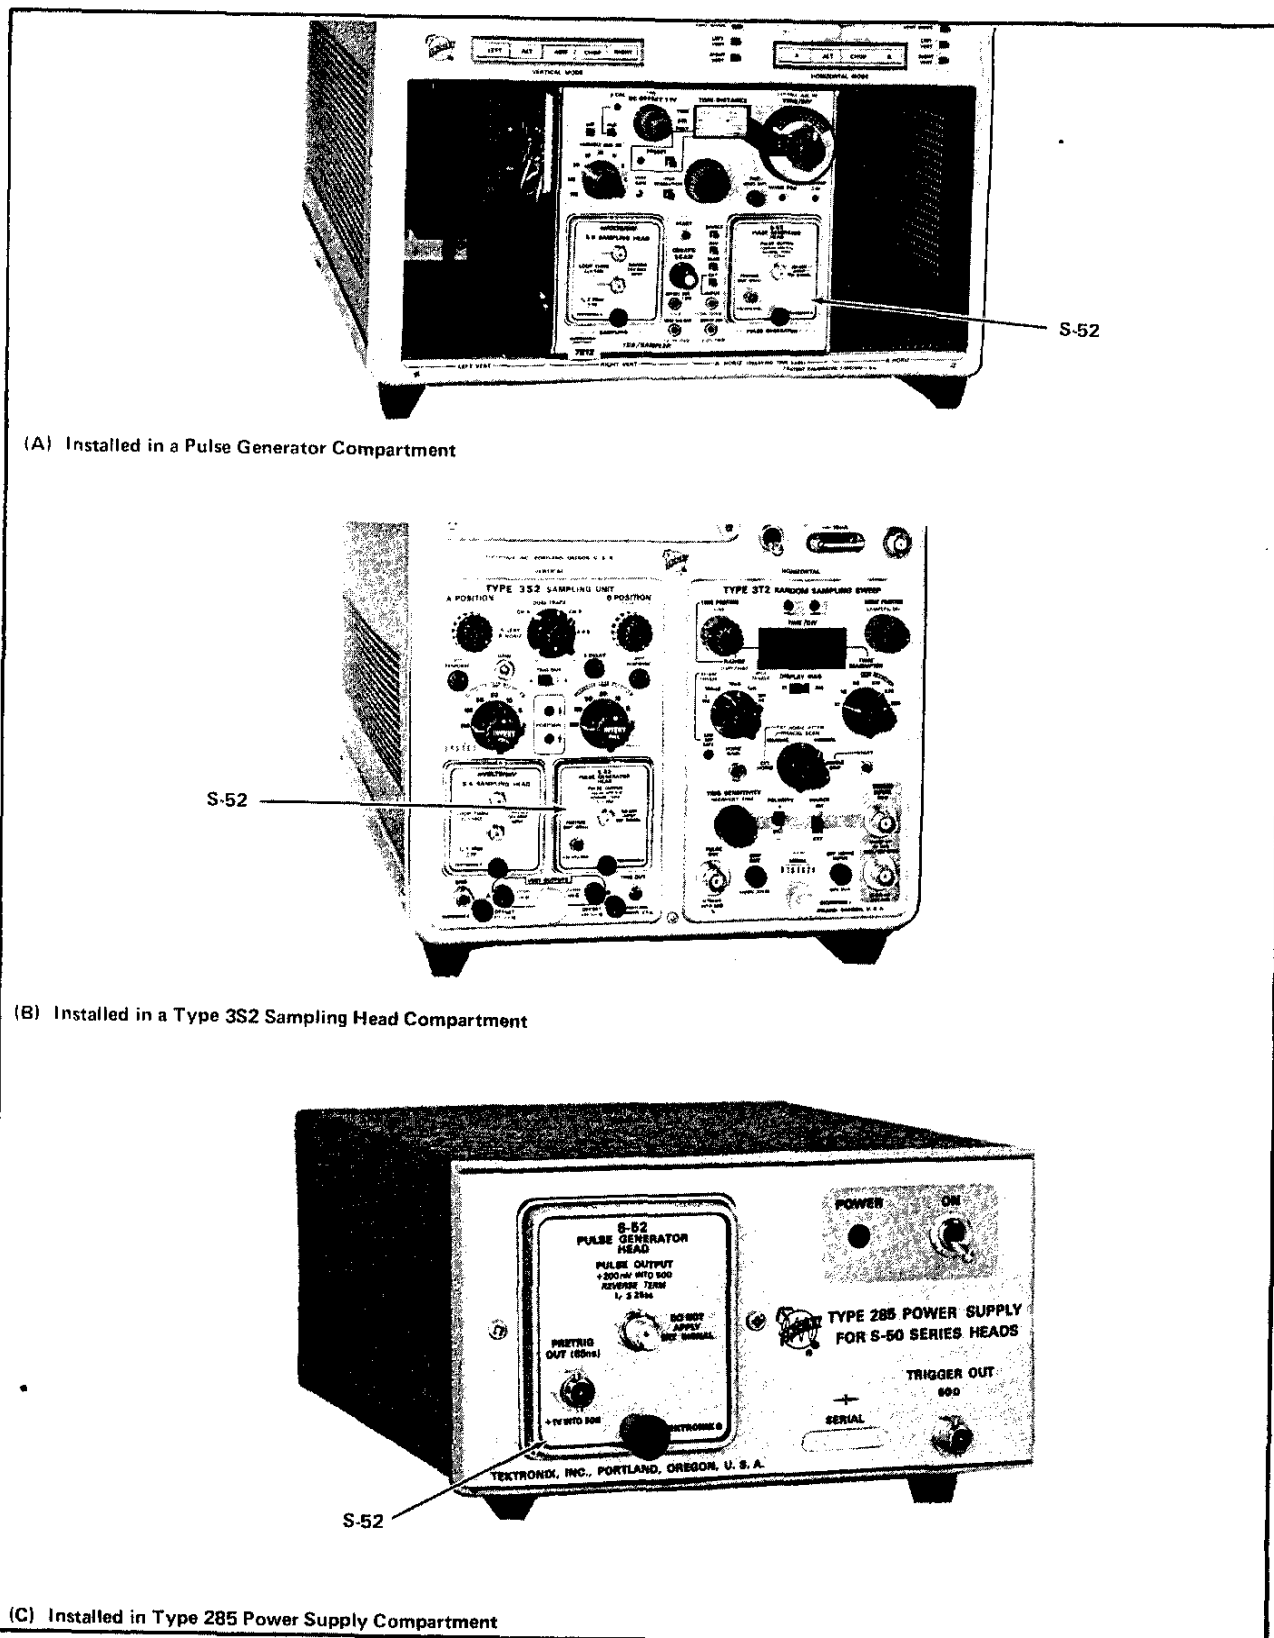

Fig. 2-1. S-52 Installation information.
Since the S-52 Pulse Generator Head can be powered by Tektronix instruments containing sampling compartments or sampling head extender cables, many combinations of instruments are possible. Three installations are shown in Fig. 2-1. Part (A) shows the S-52 installed in the pulse generator compartment of the Tektronix 7S12 TDR Sampling Unit. The 7S12 can be used in any 7000-series oscilloscope. Part (B) shows the S-52 installed in the Channel B compartment of the Type 3S2 Sampling Unit. This leaves Channel A of the sampling unit available to operate a sampling head. Part (C) shows the S-52 installed in the head compartment of the 285 Power Supply.